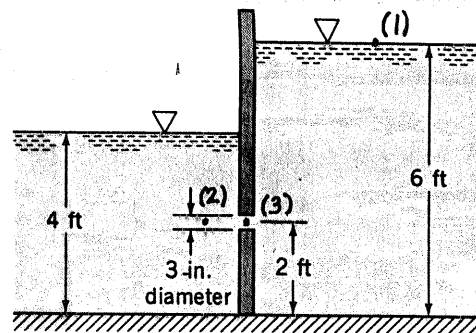

FIGURE P3.72
3.72 Determine the flowrate through the submerged orifice shown in Fig. P3.72 if the contraction coefficient is $C_c = 0.63$.